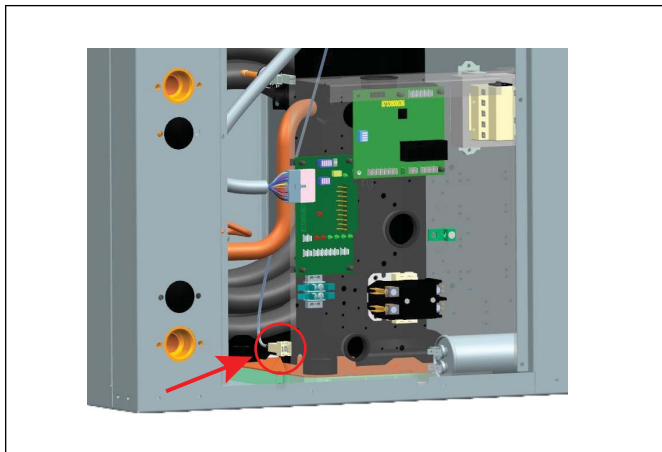

Figure 36
6. Now you will have a single connector as shown in figure 36.